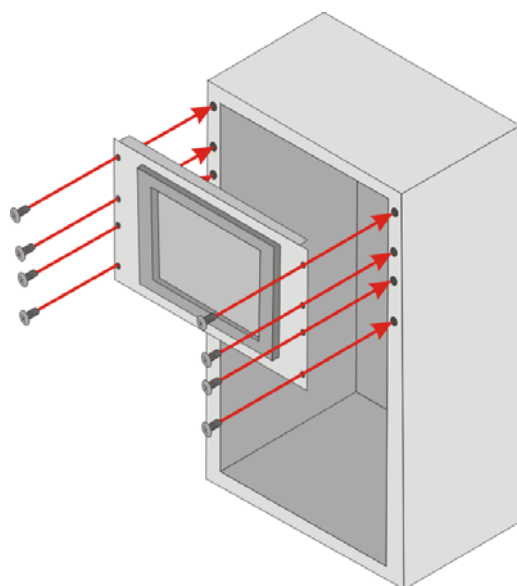

Figure 4-21: Install into a Rack/Cabinet
Step 4: Slide the flat panel PC with the attached rack/cabinet bracket into a rack or cabinet (**Figure 4-21**).
Step 5: Once the flat panel PC with the attached rack/cabinet bracket has been properly inserted into the rack or cabinet, secure the front of the rack/cabinet bracket to the front of the rack or cabinet (**Figure 4-21**).